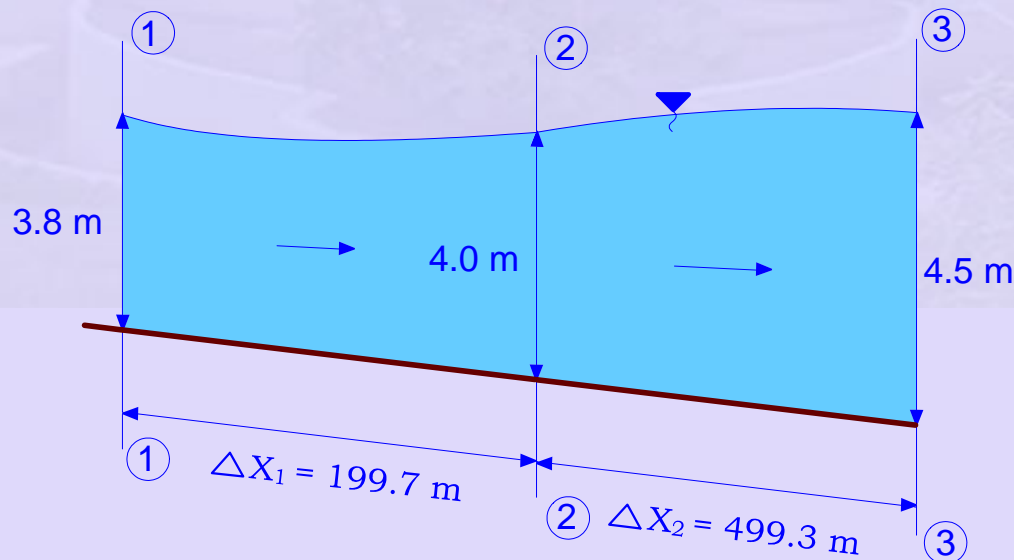

Fig. 25.3: Solution for Example 25.1
- Divide the distance into two reaches as shown in Fig. 25.3. The flow depths at sections 1, 2 and 3 are 3.8 m, 4.0 m and 4.5 m, respectively. Distances Δx_1 and Δx_2 are determined as follows.